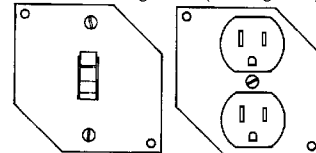

Figure 2A
- A. For 46001P/46008P and Device (See Figure 2A).